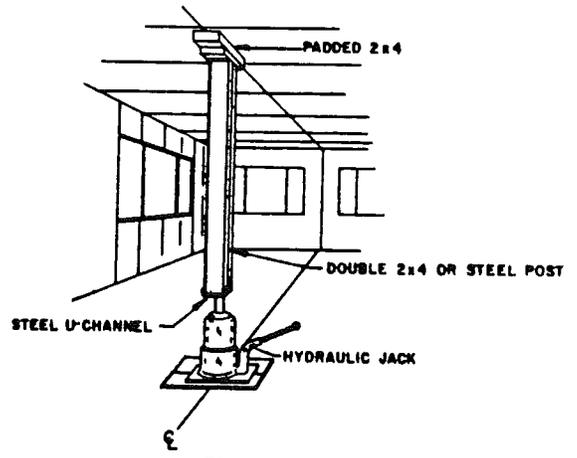

FIG. 9
4. Carefully inspect the ceiling line at the marriage line for low points. To raise these points, use a hydraulic jack with a post as shown in fig. 9. Raise the jack until the two ceiling halves are flush. Now, complete fastening the ridge beam with 3 1/2" lags staggered 24" o.c. between the ends. Repeat the procedure at all low points.